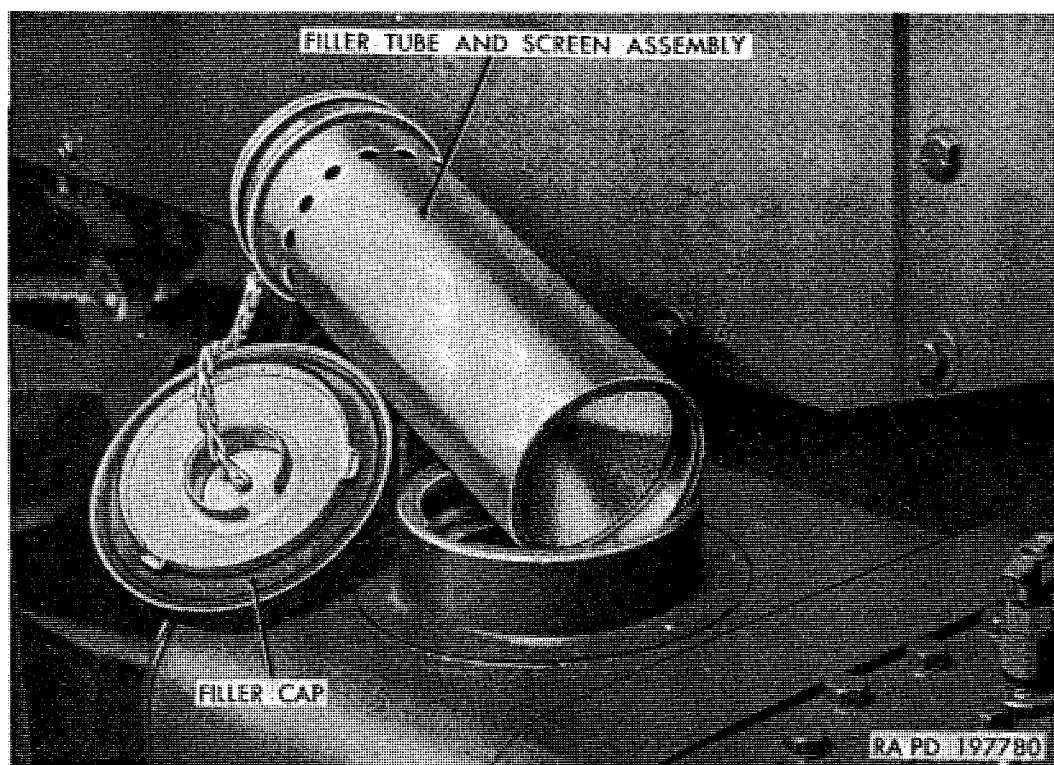

Figure 128. Fuel tank cap, filler tube, and screen.
b. Filling Fuel Tank (fig. 128). Fuel tank filler cap assembly incorporates a relief valve which opens at pressure of $2\frac{1}{2}$ psi. Filler cap is attached to filler tube by chain to prevent loss of cap. Wire mesh screen, located at lower end of metal filler tube, prevents large dirt particles from entering fuel tank.